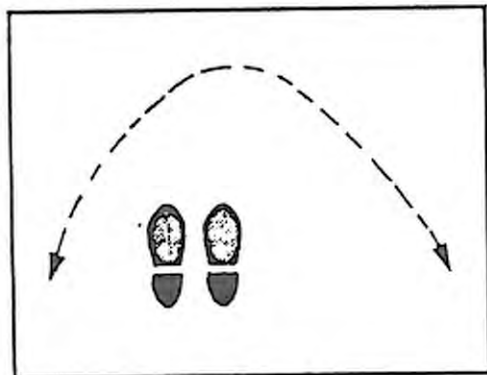

Figure 5. Search pattern.
5. Once you've got your controls properly set, begin your search by walking slowly and sweeping the search coil in a tight semicircle as shown in Figure 5.